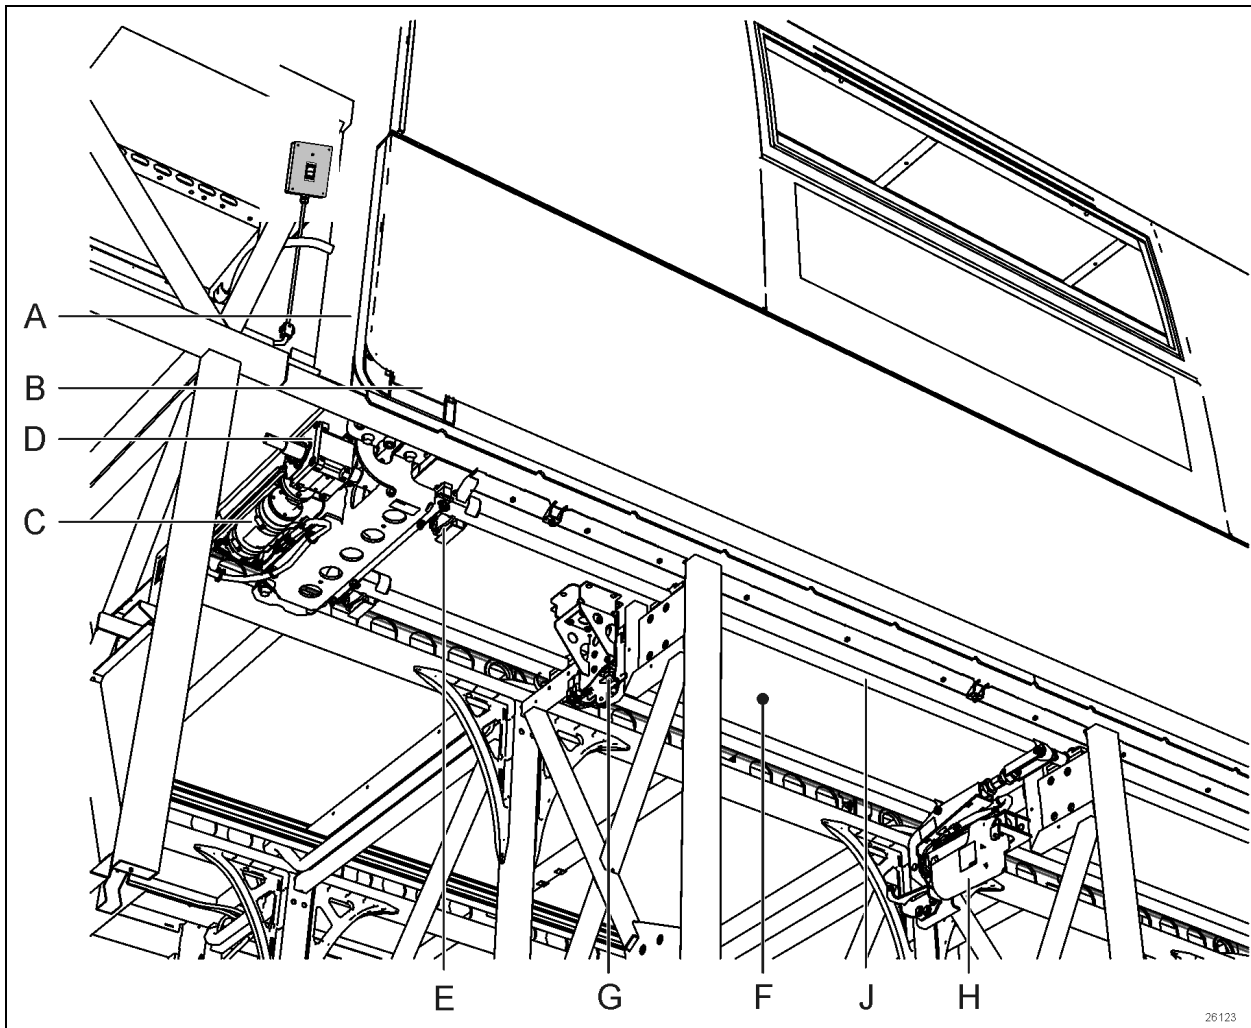
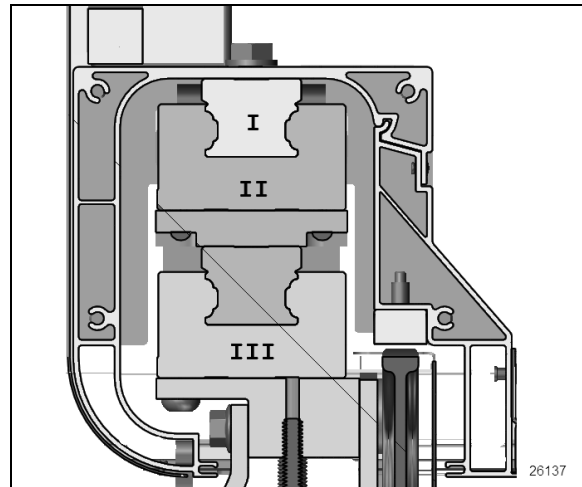

FIGURE 57: FLUSH FLOOR SLIDE-OUT MECHANISM OVERVIEW
FIGURE 62 LINEAR BEARINGS
Refer to images Figure 57 to Figure 62 above for the following descriptions.
The slide-out room is moved in and out on a pair of stacked linear bearings (Figure 62, Items I and III). Power comes from two synchronized electrical motor (C) oriented horizontally under each linear bearing assembly. The motor drives a right angle speed reducing gearbox (D).
Extension bearings and rail assemblies are stacked in pairs (Figure 62). The slide-out room structure is attached to the top rail (I). The top bearing is attached to the bottom rail (II). The bottom bearing is attached to the vehicle structure (III).